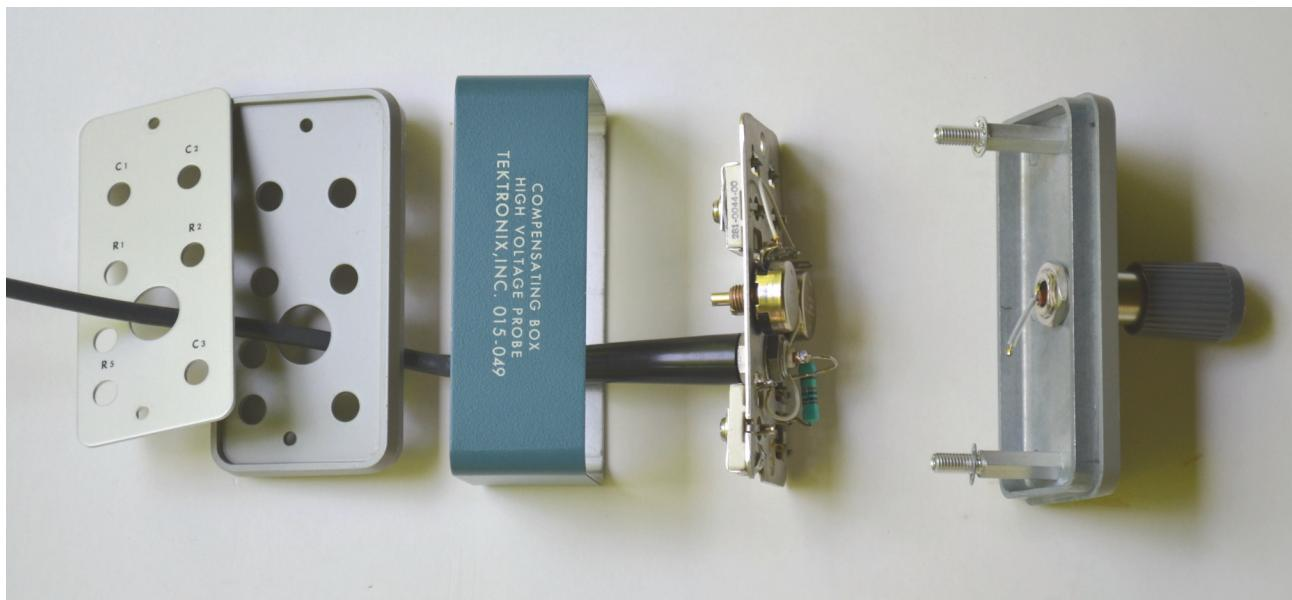

Figure 4. Disassembled compensation box.
1. Disassemble the compensation box by removing the two screws holding the cover plate. R6 is recessed within the oscilloscope connector – unsolder the resistor wire that connects to the circuit board. Using a 5/16" nutdriver, remove the two #10 nuts and lock washers that attached the circuit board to the standoffs on the rear plate. The disassembled compensation box should look like the photograph in Figure 4.